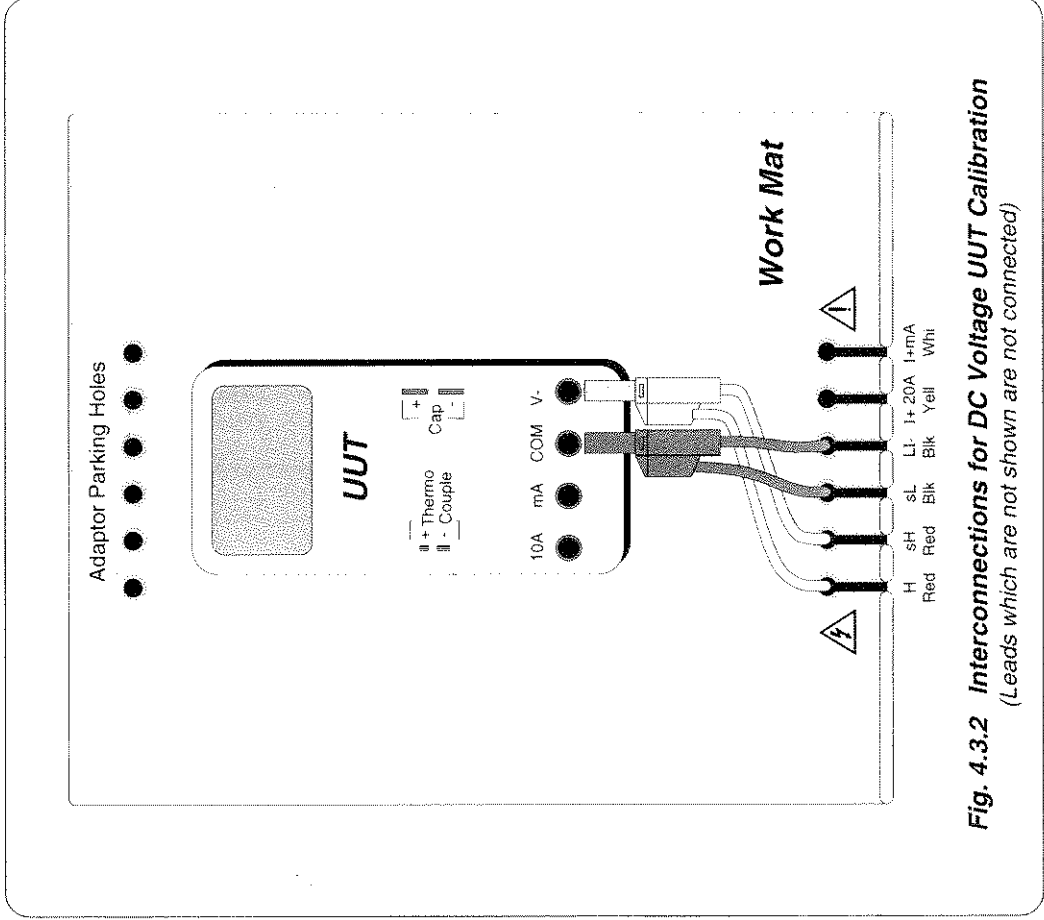

Fig. 4.3.2 Interconnections for DC Voltage UUT Calibration
The general connection scheme for UUT calibration is illustrated in Fig. 4.3.2. For UUTs without *safety* banana sockets, use appropriate adaptors.
1. **Connections** Connect the 9100 to the UUT as shown in *Fig. 4.3.2*, and ensure that both instruments are powered ON and warmed up.